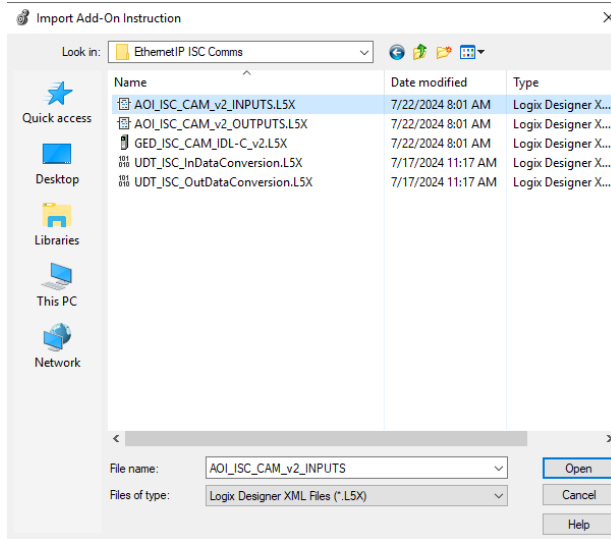

Figure 33: File Explorer Import Add-On Instruction -AOI_ISC_CAM_v2_INPUTS.L5X
17. In the file explorer “Import Add-On Instruction” navigate to “AOI_ISC_CAM_v2_INPUTS.L5K” and “Open” the file, Figure 33.